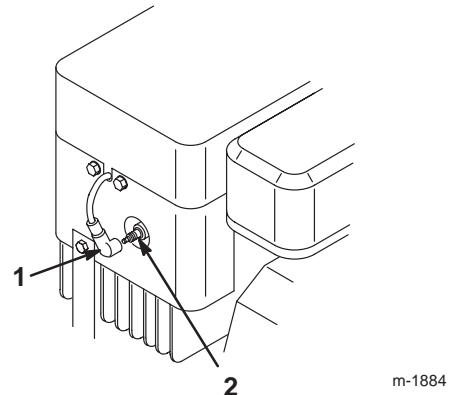

Figure 23
- Disconnect the wire from the spark plug (Fig. 23).
3. Connect the wire to the spark plug (Fig. 23).